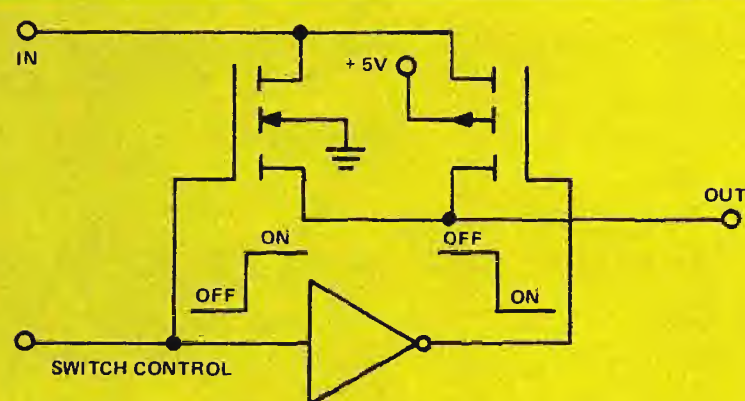

Fig. 28. COS/MOS Transmission Gate
The COS/MOS functional equivalent to the TTL tri-state buffer is the *Transmission Gate* shown in Fig. 28. In this circuit, a conventional COS/MOS inverter (as previously described) is used to control a complementary pair of transistors which are connected in parallel between an input terminal and an output terminal. If the switch control line is LOW, both transistors are cut off and the output terminal is in a "floating" condition. When the switch control line goes HIGH, both transistors conduct and the output terminal assumes the same potential as the input terminal. Two interesting properties of this circuit are: (1) it is bi-directional, in the sense that the input and output